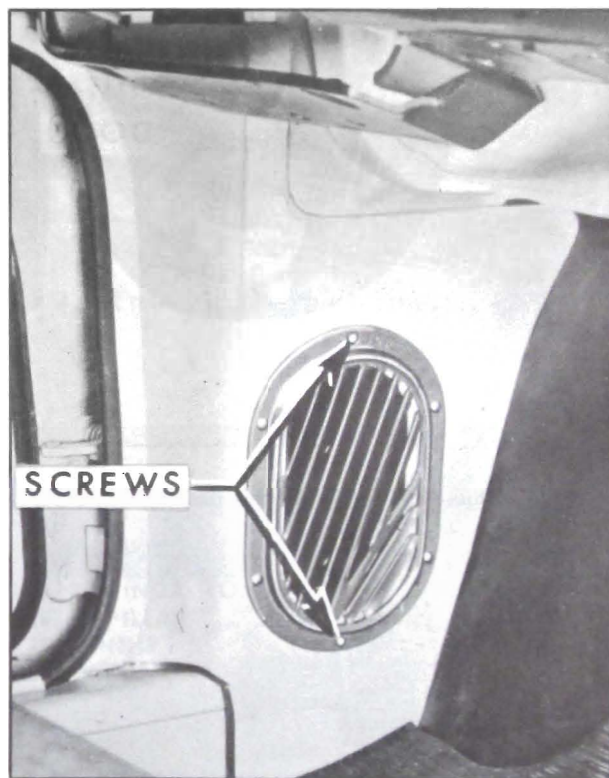

Figure 1-43—Shroud Side Foundation
1. Remove screws indicated in Figure 1-43 securing upper and lower end of air inlet grille.